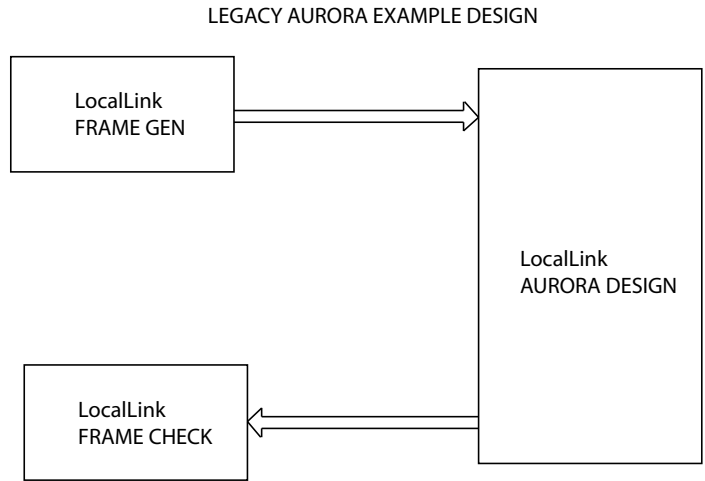
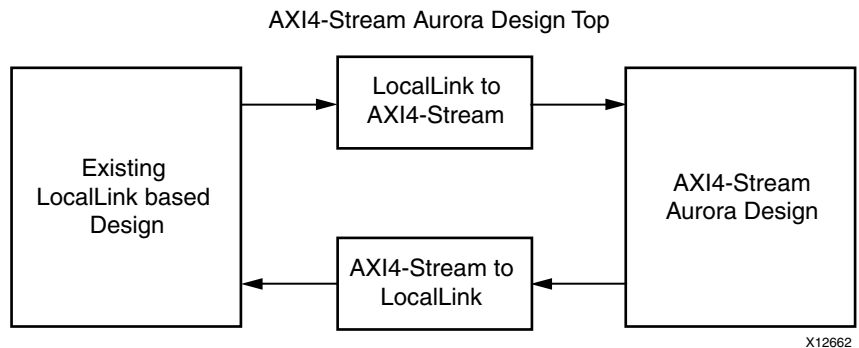

Figure B-1: Legacy Aurora Example Design
Figure B-2: AXI4-Stream Aurora Example Design
Figure B-1 shows an example Aurora design using the legacy LocalLink interface. Figure B-2 shows an example Aurora design using the AXI4-Stream interface.
2. See Figure B-2, page 129 for the emulation of a LL Aurora core from a AXI4-Stream Aurora core.
5. Connect the shim and AXI4-Stream Aurora design as shown in Figure B-2, page 129.